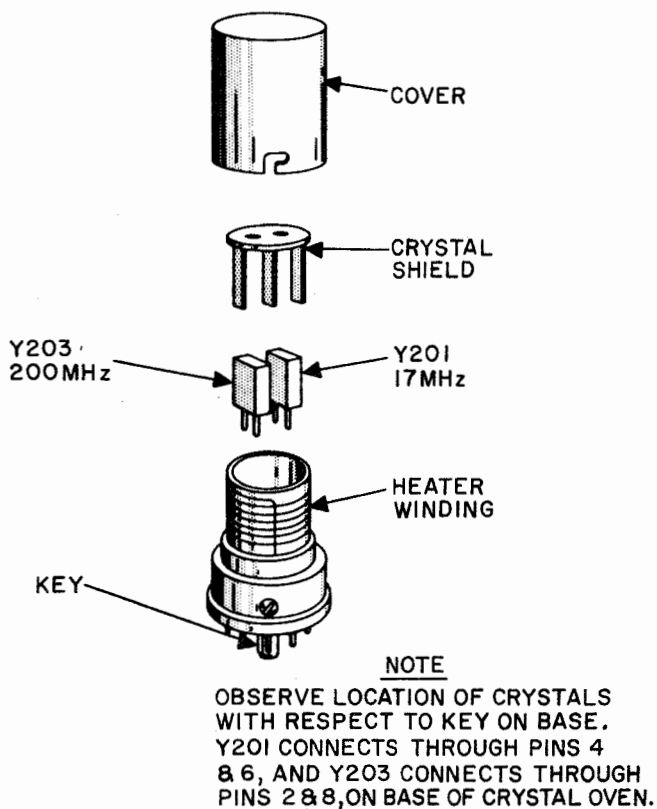

Figure 6-11. Location of Crystals Y201 and Y202
6.3.5 Removal and Replacement of Crystal Oven HR202. (See figure 6-11.) Replacement of crystal oven HR202 does not require removal of the RF subchassis from the main frame.
6.3.6 Disassembly and Assembly of Crystal Oven HR202 to Replace Crystals. (See figure 6-11.)
1. When inserting crystals Y201 and Y203, be sure to plug them in at the proper locations with respect to the key on the base (figure 6-11).